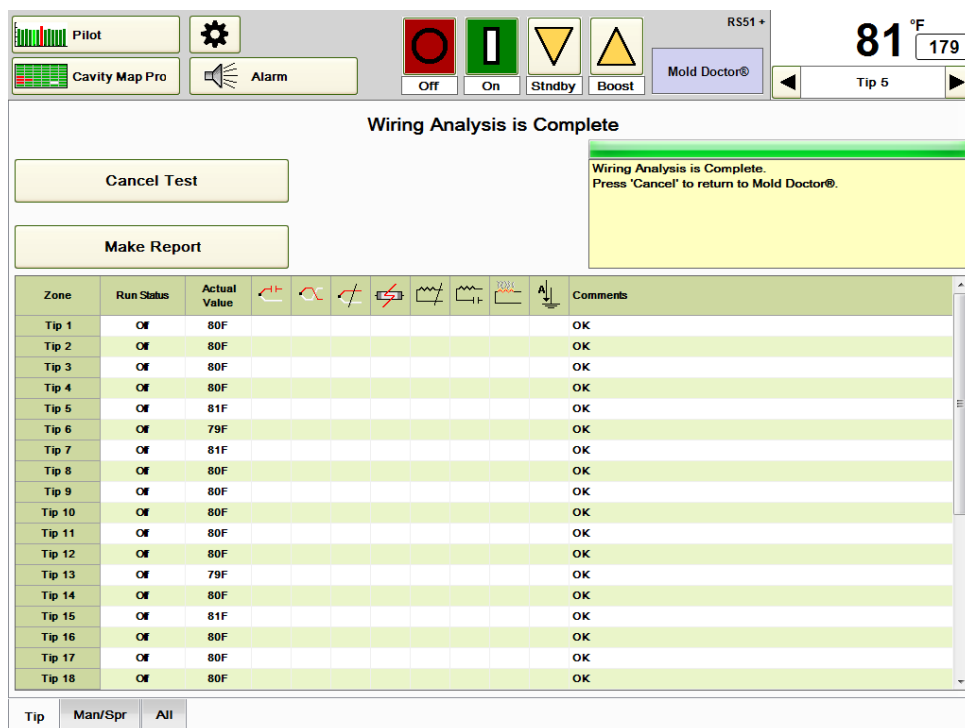

Figure 20d Wiring Analysis in Operation
- 3) The results of the test will appear on the screen as shown in Figure 20d. Progress information will appear in the yellow box on the right.
- 4) The report can be saved by touching the **Make Report** button shown in Figure 20d and choosing USB drive or the D:\G24\Reports directory.